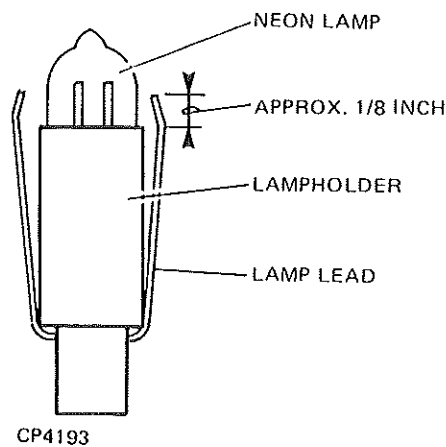

Figure 13. S-C Line Lamp and Lampholder
- f. Bend lamp leads along guides in lampholder and clip excessive lamp lead length. (Allow approximately 1/8-inch of lead wire to extend above lampholder as shown in figure 13.)